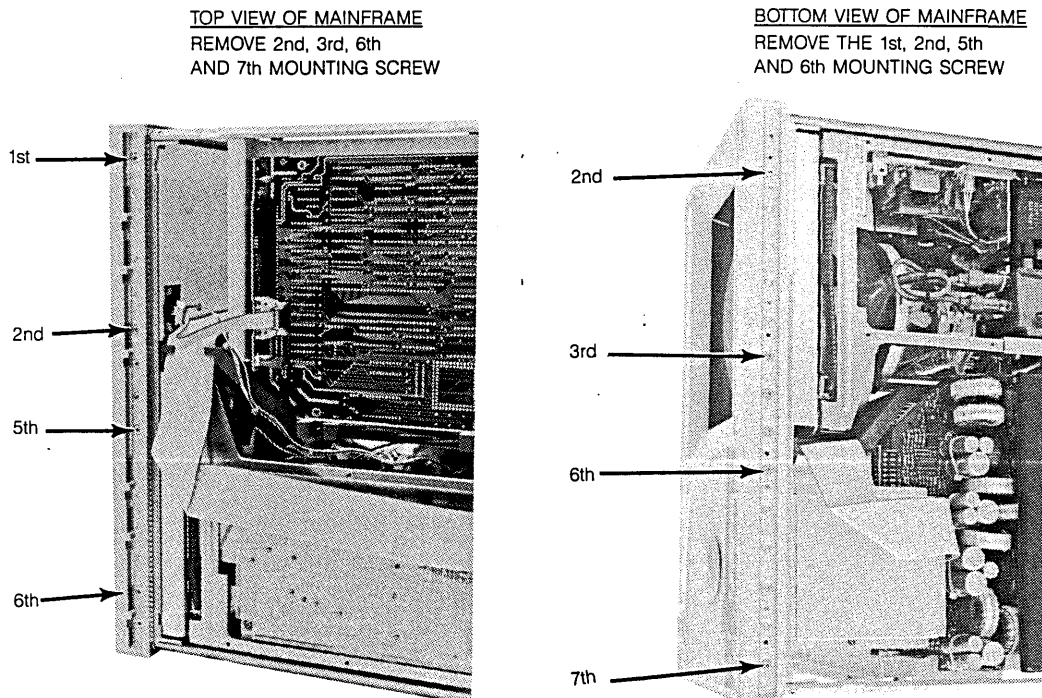

Figure 6-42. Front Panel Mounting Screws Identification
- c. With a Torx T-15 driver, remove the four bottom front panel mounting screws as shown in figure 6-42. Repeat the procedure for the top mounting screws.